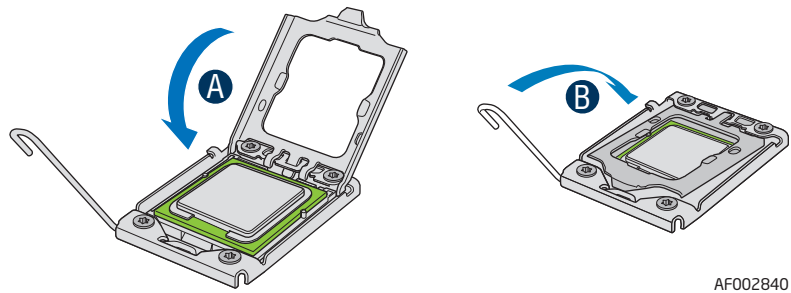

Figure 15. Closing the Load Plate
16. Close the CPU load plate all the way (see letter “A” in Figure 15).
17. Close the socket lever completely and ensure that the load plate tab engages under the socket lever when fully closed (see letter “B” in Figure 15).